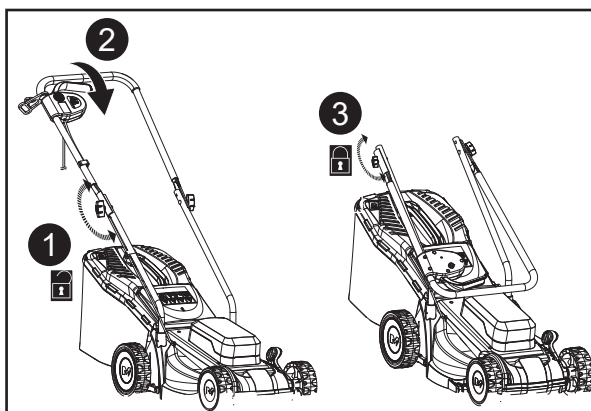

Fig. 17
3. Fold the handle assembly and store the product to save space (Fig. 17, steps 1, 2, 3).